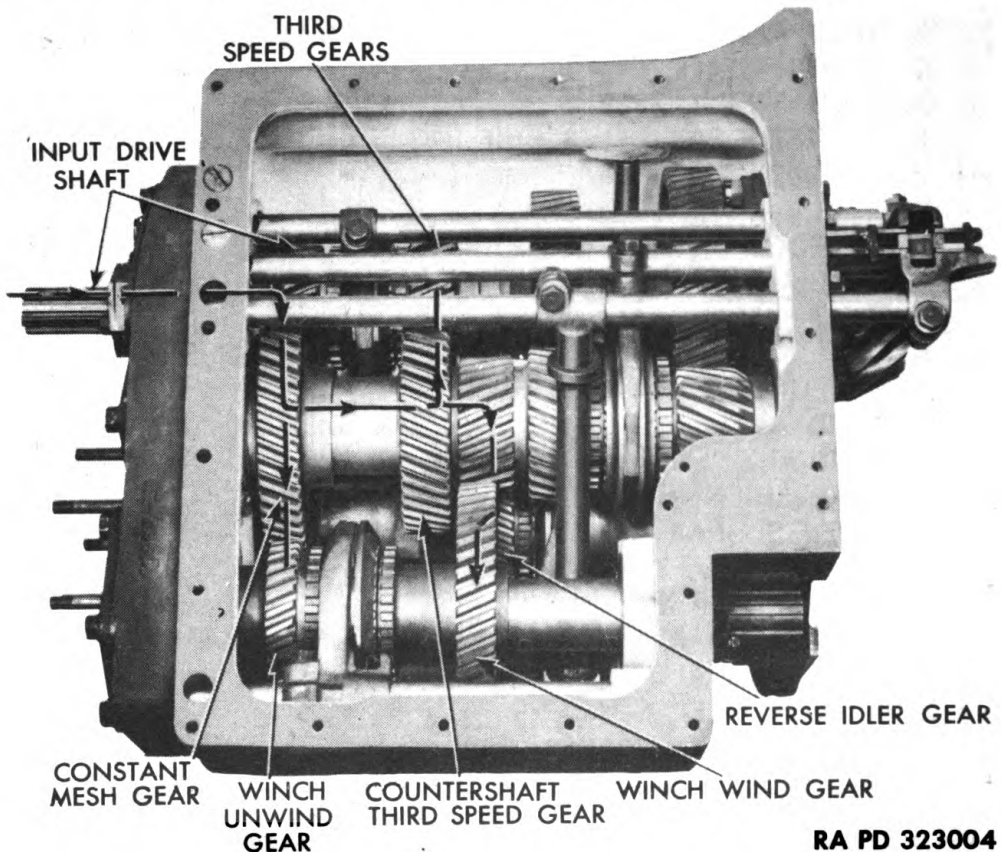

Figure 3 — Transmission in Neutral Position
(1) **NEUTRAL** (fig. 3). In neutral position, the following parts of the transmission all rotate when the engine is running and engine clutch is engaged: The input drive shaft, engine countershaft including the constant mesh gear and the third speed gear, winch wind and unwind gears, reverse idler gear and shaft, and third speed gear. Whenever the input drive shaft rotates, the countershaft and reverse shaft also rotate, and the reverse shaft operates the transmission oil pump. The oil pump circulates the oil supply through the filter and cooler, and maintains oil pressure in the transmission rear oil chamber. Lubricant is forced from this chamber through drilled holes in all the transmission shafts, except the reverse shaft, to the free running gears on the shafts. The reverse shaft has a drilled hole in the front end that is supplied with lubricant from a trough at the front of the transmission case.